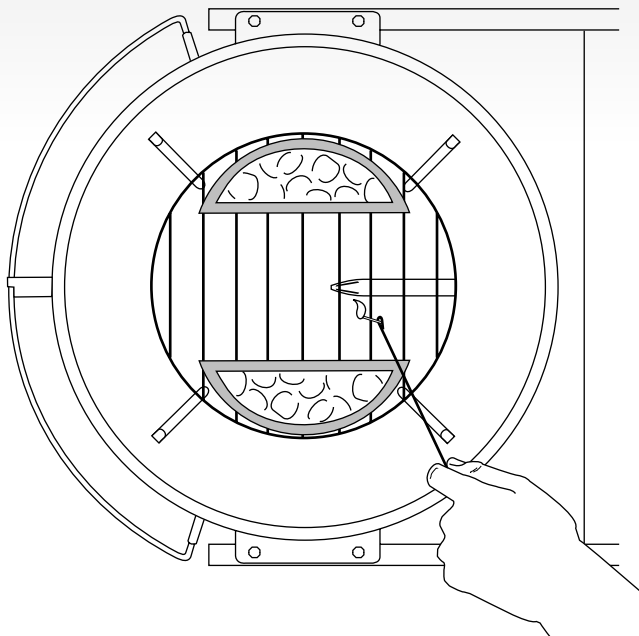

Figure 4
- 5) Position match flame at rear of burner slot. Figure 4.